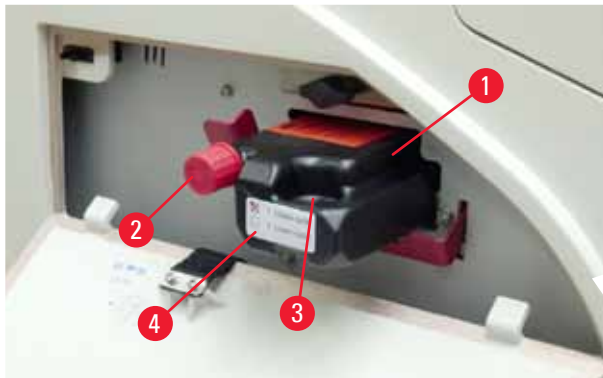

Fig. 54
3. Remove the protective foil and insert the cartridge until it is about half way into the cartridge slot (→ "Fig. 54").